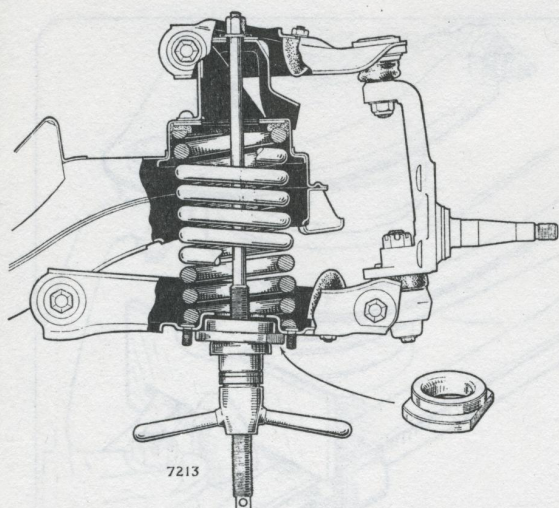

Fig. 29 Front suspension unit in static laden position with spring compressor RG. 50D in position
1. Remove the shock absorber from the suspension unit, see under "Shock absorber—To remove and refit"; fit and tension the spring compressor RG. 50D to bring the bottom link to the horizontal position (Fig. 29).
1. Remove the shock absorber from the suspension unit, see under "Shock absorber—To remove and refit"; fit and tension the spring compressor RG. 50D to bring the lower link to the horizontal position. (See Fig. 29).
1. Remove the shock absorber, compress the front spring with the special tool RG. 50D and detach the tapered ball pin of the lower swivel bearing from the stub axle, see under "Stub axle lower swivel bearing—To remove and refit". (See Fig. 29.)